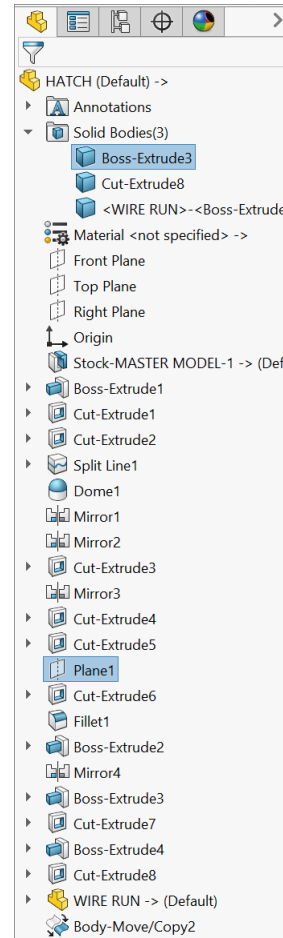

Fig. 135
Step 2. Expand Solid Bodies  folder in the Feature Manager. **Ctrl click** **Boss-Extrude3**  body and **Plane1**  to select body and plane, **Fig. 135**.